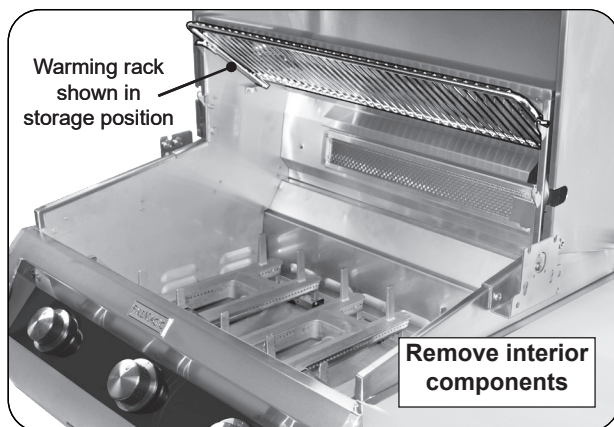

Fig. 43-1 Prepare grill for rotissing
1. Set the warming rack to storage position, remove the backburner cover and cooking grids (see Fig. 43-1).